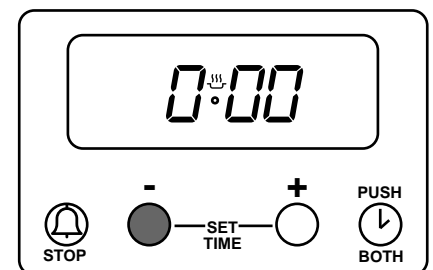

Fig. 6.10
Press and release button (1). Then press and hold button (1) and the display will count down in one minute intervals to  $0^{\text{u}}:00$ . See Fig. 6.10. Release button (1).